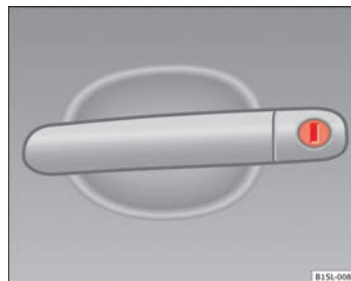

Fig. 132 Driver side door handle with lock cylinder
- Insert the key shaft into the lock cylinder to unlock or lock the vehicle ⇒ Fig. 132. ■